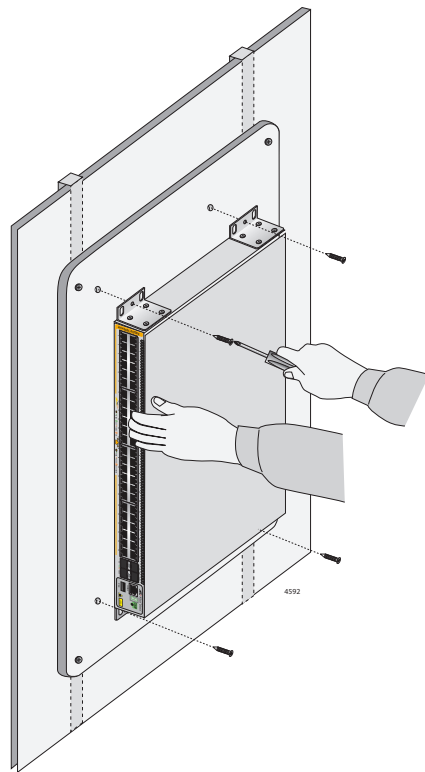

Figure 24. Securing the AT-x530L-52GPX Switches to the Plywood Base
3. After attaching the brackets, have another person hold the switch on the plywood base on the wall while you secure it with the M4x32.3mm screws included with the switch. Refer to Figure 24 for the AT-x530L-52GPX switches.
- ❑ Position it so that the front panel is facing up, left or right. Refer to Figure 24. Do not install it with the front panel facing down.
- Position it so that the front panel is facing up, left or right. Refer to Figure 24 on page 66. Do not install the switch with the front panel facing down.